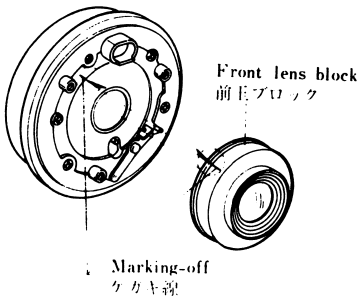

Fig. 26
3. Place 2110 in the position (Fig.26) noted during disassembly, and fasten it with three 9101.
3. 2110を取外し時に確認しておいた位置 (Fig. 26) に9101 3本で取付ける。